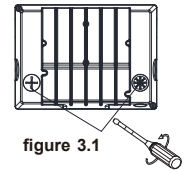

figure 3.1
Step 1: Open the metal plug and plastic plug counter (figure 3.1), then slide the switch up and down to adjust the CCT controller or photocell controller in your fixture.